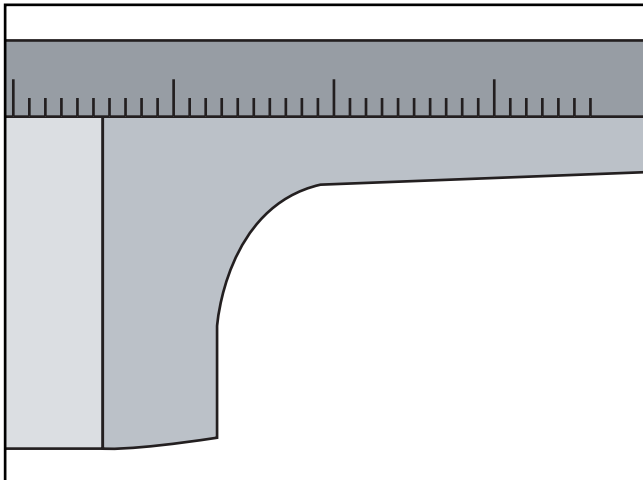

Figure 4. Checking flatness.
3. Using a straightedge, note the portion of the neck protruding above the surface of the body (**Figure 4**).